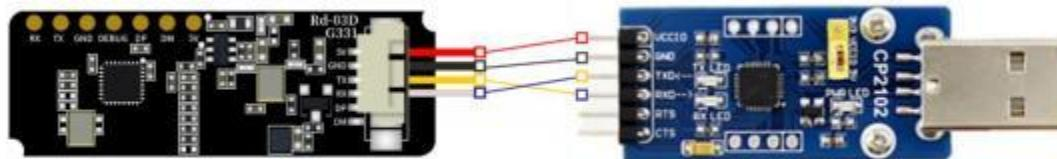

Figure 4-1 Rd-03D_V2 module and serial port tool connection
Step 1: Use the connection line to connect the Rd-03D_V2 module and the serial port tool, the connection method is shown in Figure 4-1, through the serial port tool to connect the module and the upper computer;